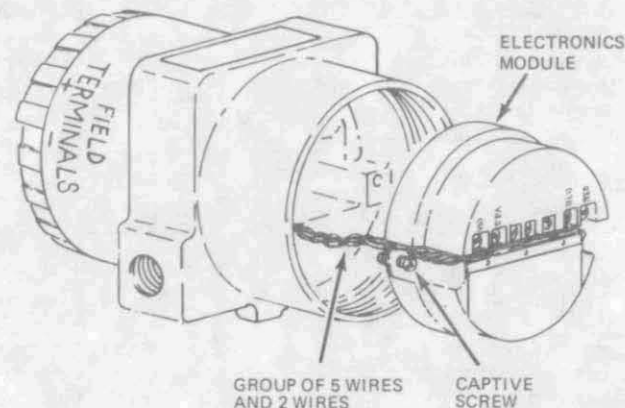

Figure 27
2. Loosen the two captive screws (Figure 27) that hold module to housing. Lift out module. Cut tie-wrap that holds five wires to rear of electronics module.